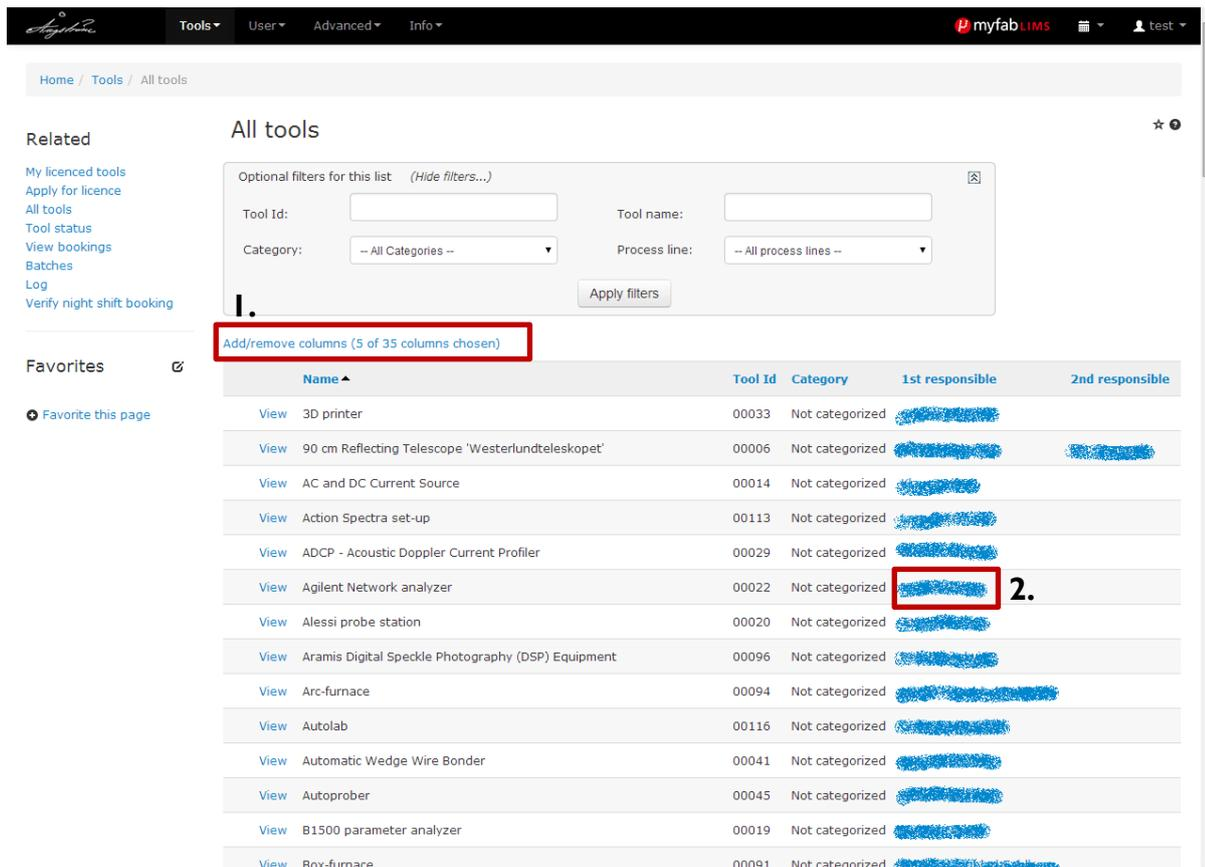

Fig. 3
The tool list shows all the equipment in the database, as is displayed in Fig. 3. You can filter them by category or with certain phrases entered in *Tool name*, or if you are logged in you can sort them by any associated information using the option to *Add/remove columns* (1).